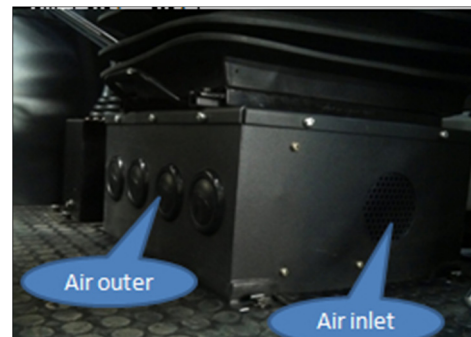

Figure 26c
- When Using the heater, can't put your clothes and other debris in front of the inlet and outlet, or it will cause poor air inlet and outlet, affect the heating effect; air inlet is on the side of the heater, air outlet is on the front of the heater(Fig.26c).